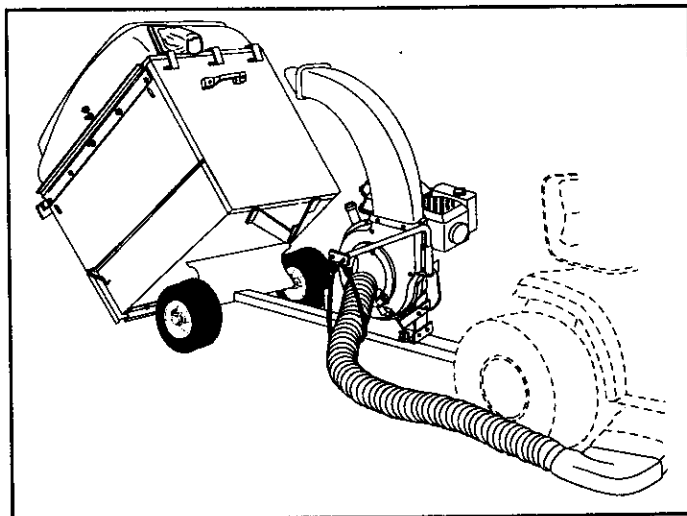

FIGURE 36
- Release latch lock lever on tongue and tip cart back. See figure 36.